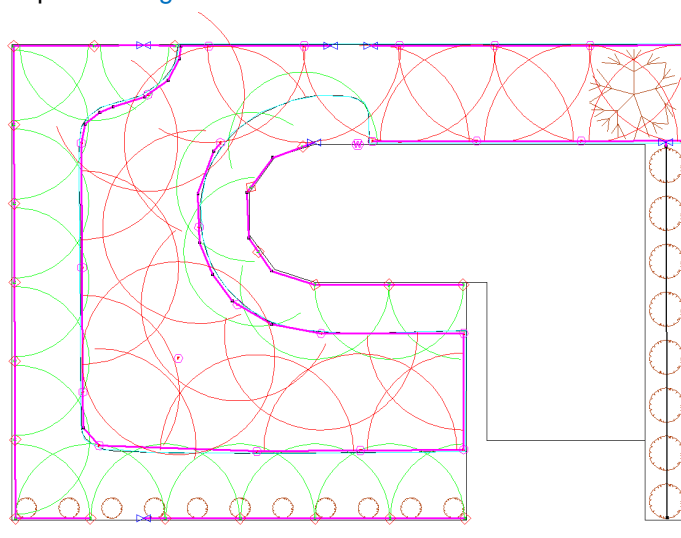

Figure 4-74
42. Lastly, connect a valve to the top of the pipe connecting to the tape. See Figure 4-74.